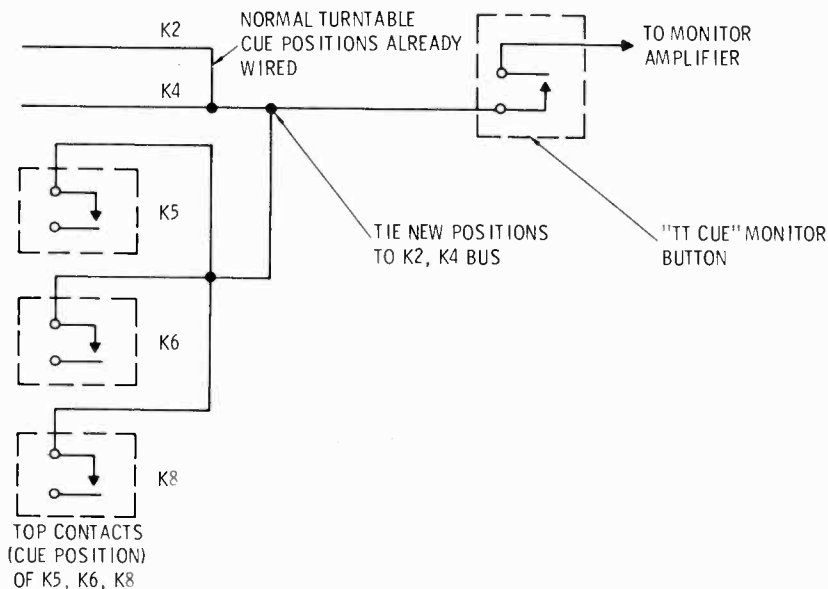

Fig. B-6. TC-4A modifications to pick up cue terminals of relays so that added microphones may be checked out on the cue system without getting them on the air.
8. Microphone Checkout (Fig. B-6)